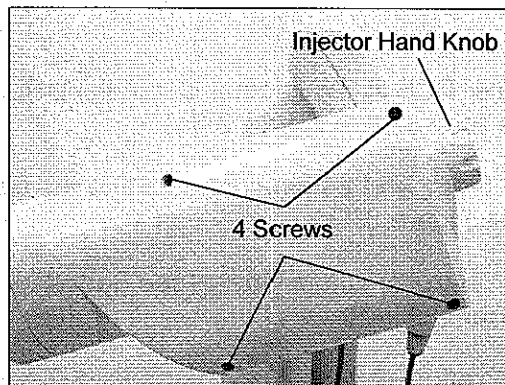

Figure 5-12a: Removing the Rear Enclosure
3. Pull off the Injector Hand Knob at the rear of the Injector Head (see Figure 5-12a).
4. Remove four Phillips screws from the Injector Head's Rear Enclosure (see Figure 5-12a).
3. Secure the Rear Enclosure with four Phillips screws (see Figure 5-12a).
4. Install the Injector Hand Knob at the rear of the Injector Head (see Figure 5-12a). Make certain that the knob does not rub against the enclosure surface.